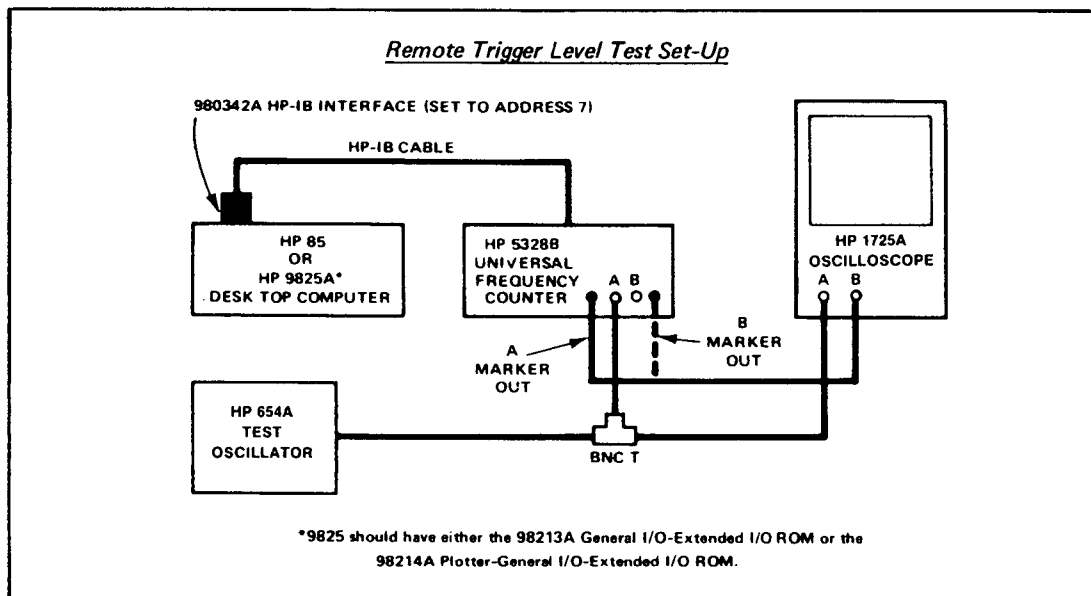

Figure 4-21. Remote Trigger Level Test Set-up
- a. Connect the test setup as shown in *Figure 4-21*.